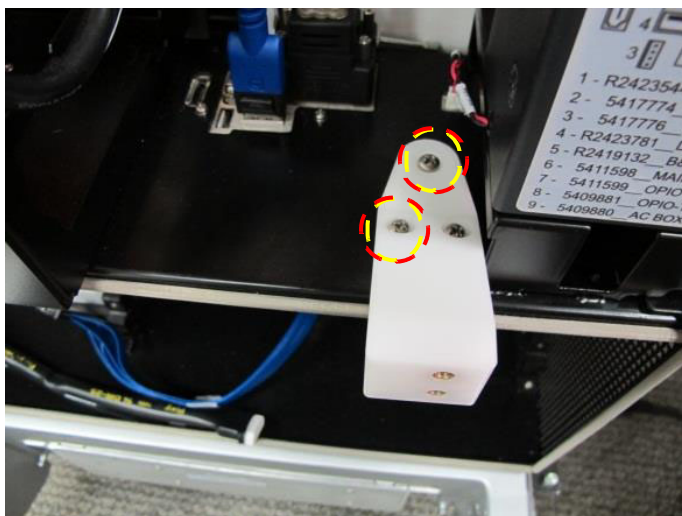

Figure 8-15 Removing the RS Cable Assembly - Rear Part
- 7.) Unfasten the three securing screws shown in Figure 8-15 and remove the rear part of the RS cable assembly from the top of the electronic cage.
- 1) Fit the rear part of the RS cable assembly to the top of the electronic cage and secure firmly in position with the three screws - see Figure 8-15.